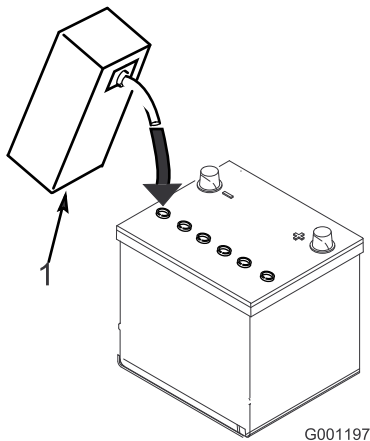

Figure 5
3. Carefully fill each cell with electrolyte until the plates are covered with about 1/4 inch (6 mm) of fluid (Figure 5).
4. Allow approximately 20 to 30 minutes for the electrolyte to soak into the plates. Refill as necessary to bring the electrolyte to within about 1/4 inch (6 mm) of the bottom of the fill well (Figure 5).